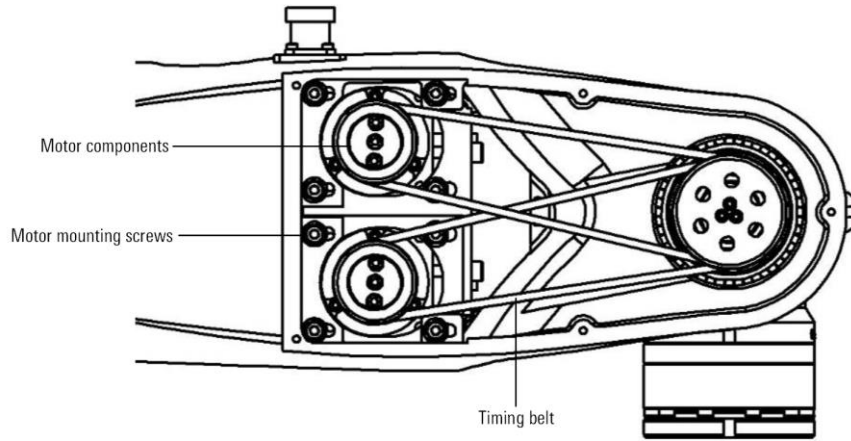

Figure 13-6 Remove the timing belt
- Loosen the mounting screws of the motor assembly, as shown in Figure 13-6.